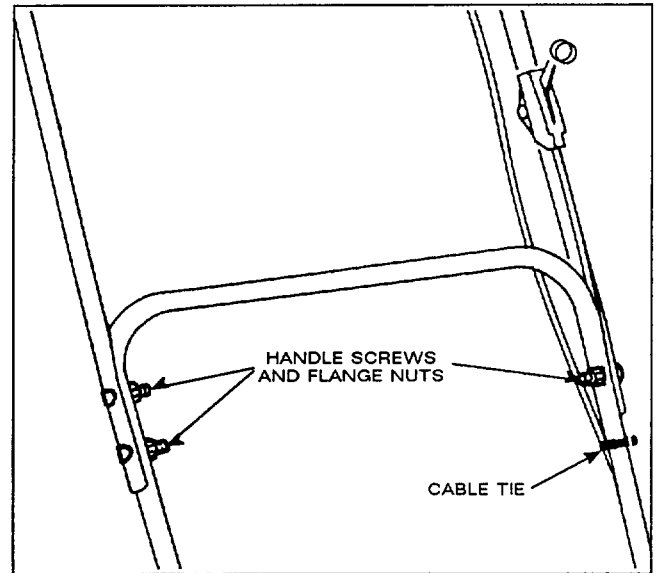

Figure 2
3. UPPER HANDLE (Fig. 2)—Secure upper and lower handles in place with handle bolts and nuts. Secure control cables in position with cable tie.